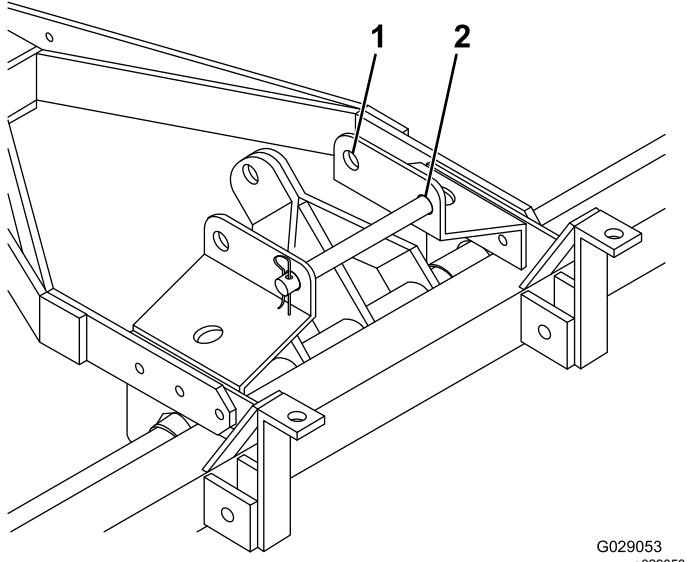

Figure 10
1. Move the lock pin to the rear (aerating) position (Figure 10).
6. When transporting Model 44856, place the lock pin in the front hole (Figure 10).